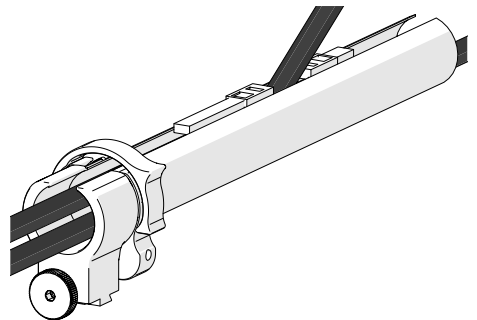

Fig. 153 - Flexibility
4. When necessary, the two zippers may be opened to allow any cables to exit the tube anywhere between the ends (*Fig. 153*).